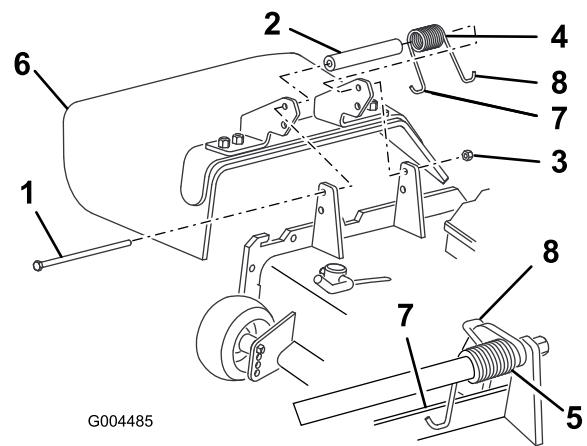

Figure 71
2. Remove the locknut, bolt, spring and spacer holding the deflector to the pivot brackets (Figure 71). Remove damaged or worn grass deflector.
3. Place the spacer and spring between the replacement grass deflector brackets (Figure 71). Place the left hand J hook end of the spring behind the deck edge.
Note: Make sure the left hand J hook end of the spring is installed behind the deck edge before installing the bolt as shown in Figure 71.
4. Install the bolt and nut. Place the right hand J hook end of the spring around the grass deflector (Figure 71).